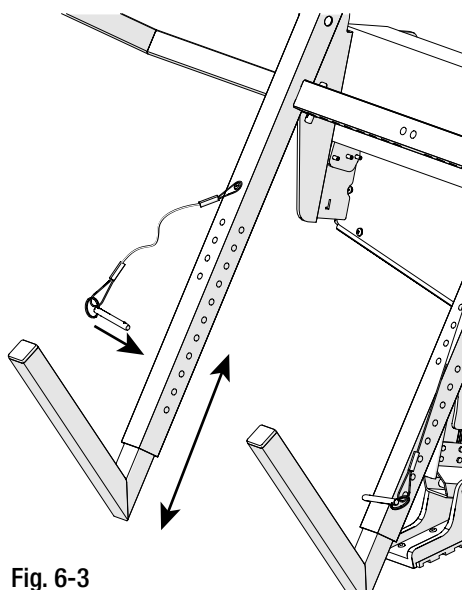

Fig. 6-3
3. Slide lower arm into the bottom of the frame all the way to the top. Secure with safety pin. See Fig. 6-3.